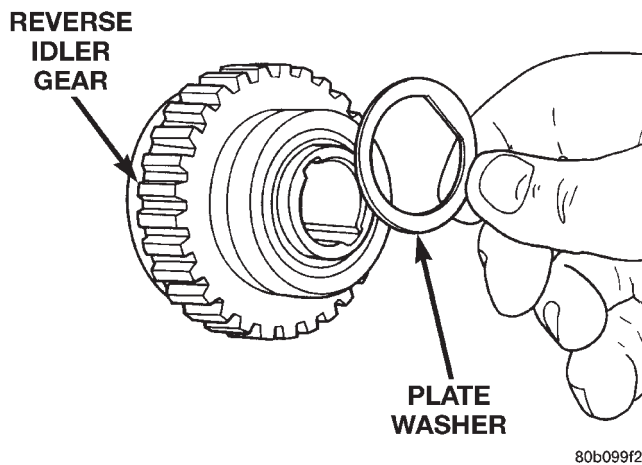

Fig. 116 Remove Reverse Idler Gear Plate Washer
(2) Remove the plate washer from the reverse idler gear hub/race (Fig. 116).